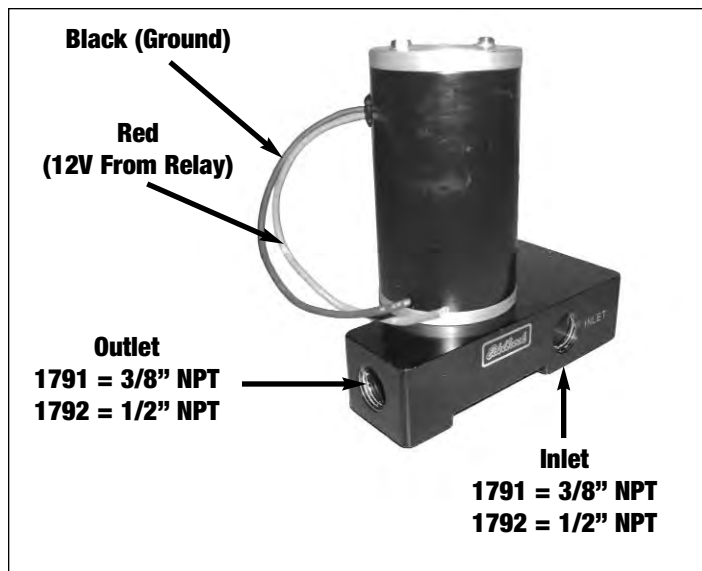

Figure 2 - Fuel Pump
6. Install the appropriate fittings or use appropriate sized hose ends on your fuel line (**Fuel fittings not included**) (**See Figure 2**). Coat the threads of the fittings with thread sealer before assembly. Pump #1791 features 3/8" NPT inlet and outlet and 1792 features 1/2" NPT threads. See the Russell catalog or visit www.russellperformance.com for a selection of fittings and hose ends.
Connect the **BLACK** wire to a battery ground or good engine/chassis ground, and the **RED** wire to the 12v output from the relay being used (**See Figure 2**). The relay should be wired such that power to the fuel pump is only on when the key is on. See the installation instructions to Universal Fuel Pump Relay #1795 for relay wiring instructions.